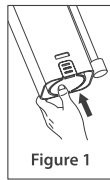
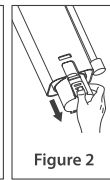

Figure 1
Figure 2
• To remove the old filter, take out the water pumping unit (Figure 1), and push the bottom of the filter upwards to loosen the filter from the water pumping unit. Then, press the buckles on both sides of the filter to take the filter out of the water pumping unit. (Figure 2)